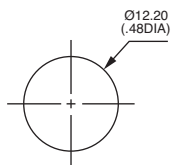

Figure 1
- 0 For NON-SEALED mounting (panel cut-out fig. 1, 2 or 3)